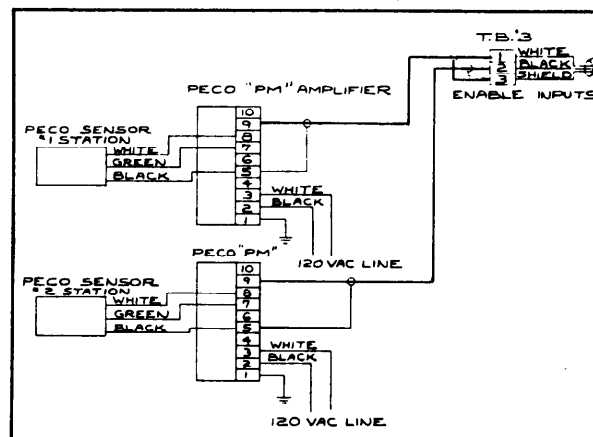

Figure 9 - Peco PM Proximity Amplifier Electrical Installation
2. Install the sensors as shown in Figure 9.